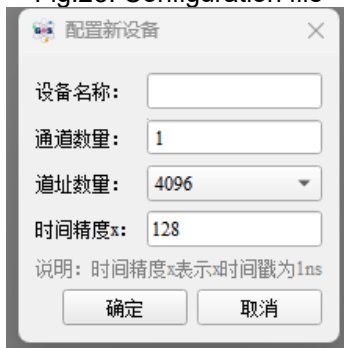
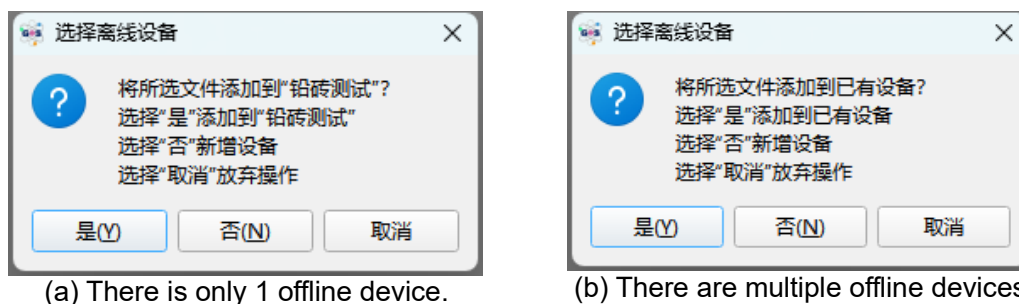
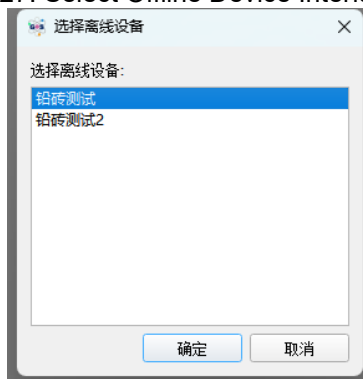

Fig.26: Configuration interface for new devices
Fig.27: Select Offline Device Interface 1
Fig.28: Select Offline Device Interface 2
① If no offline device has been added to the software, the new device configuration interface as shown in Fig.26 will pop up. Fill in or select the device name, number of channels, number of channel addresses, and time accuracy in sequence, and click the OK button. The software can then start reading data from the selected List data files.
② If an offline device has been added to the software, the offline device
selection interface as shown in Fig.27 will pop up. Select "Yes". If there is only 1 offline device in the software currently (Fig.27(a)), directly add the selected file to this offline device (if the offline device already contains this file, do not add it). If there are more than 1 offline device in the software currently (Fig.27(b)), the offline device selection interface as shown in Fig.28 will pop up. Select an offline device and press the OK button, then add the selected file to the selected offline device (if the selected offline device already contains this file, do not add it). Select "No", which is the same as ①. Select "Cancel" to abandon the addition of the offline device this time.